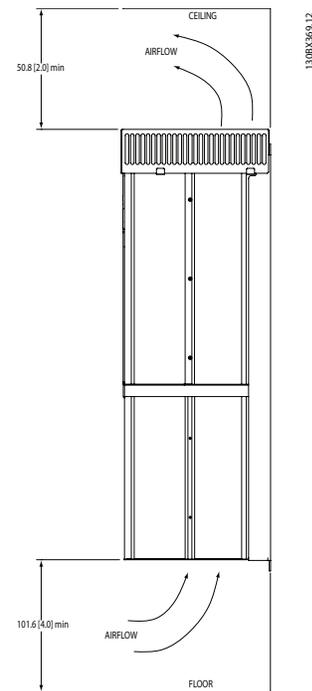

Figure 3.3 Cooling Airflow
- Top and bottom clearance is required for cooling (see Figure 3.3). Generally, 2 to 10 inches (50 to 250mm) minimum clearance is required, depending upon the hp (kW) of the unit. See the mechanical drawing shipped with the unit for specific requirements.